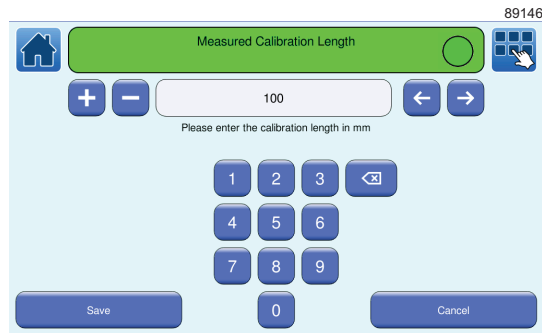

Figure 39. Measured Calibration Length screen
- 7 Touch the **Enter Measured Calibration Length** button to display the **Measured Calibration Length** screen (see Figure 39 on page 47).